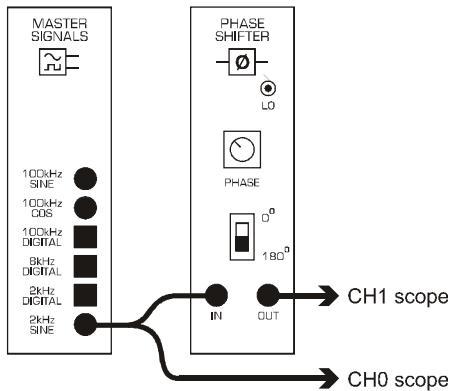

Figure 20: "adjust\_PHASE" wiring diagram
1. Use patching cords to wire up DATEx blocks according to the wiring diagram in Figure 20.